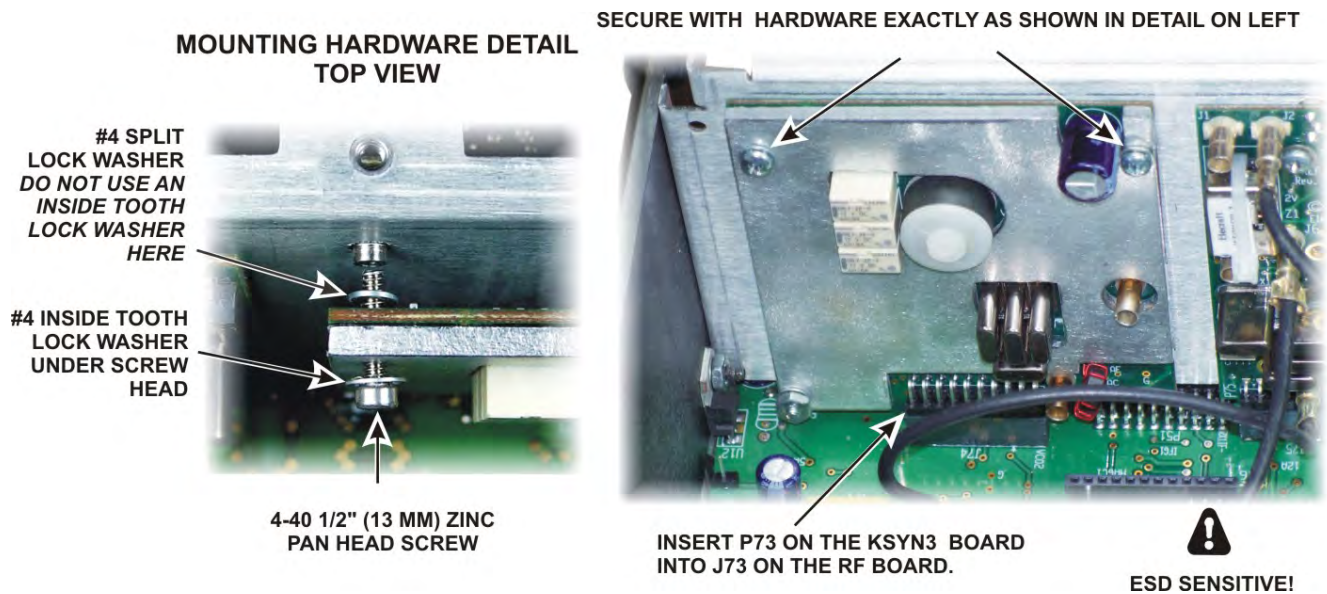
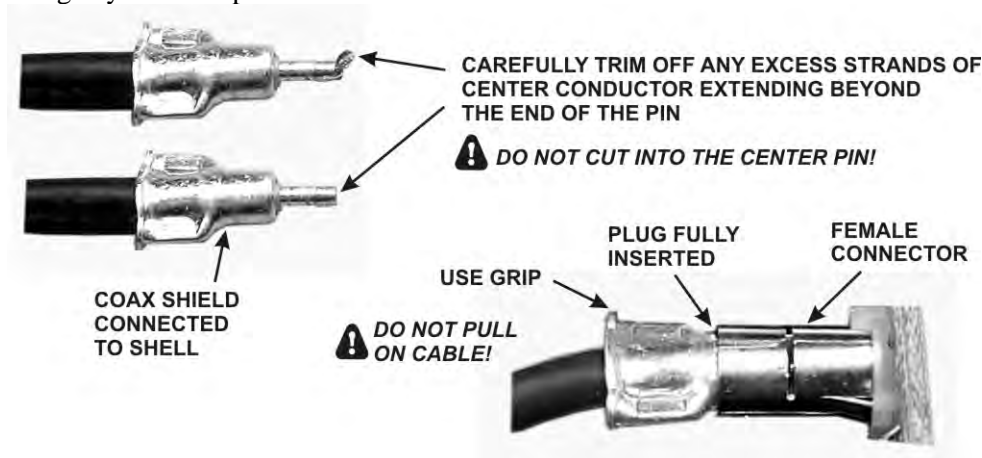

Figure 27. Installing the Aux KSYN3 Board.
Figure 28. TMP Cable Connectors.
□ Install the Auxiliary KSYN3 board on the back of the front panel shield between the KREF3 board and the side panel. Use the hardware exactly as shown in Figure 27. This is most easily done as follows:
☐ Locate the four coaxial TMP cables supplied and sort them by length. There are two 6” (15 cm) one 10” (25 cm) and one 12” (30 cm) cables. These are approximate measurements measured from the tip of one connector to the other. Check the cables as shown in Figure 28 to ensure there are no excess strands of the center conductor extending beyond the tip of the connector. .
☐ Plug one end of the 10” (25 cm) cable into J84 near the bottom of the auxiliary KSYN3 synthesizer board installed earlier (see Figure 27). When inserting or removing the TMP connectors, always handle the cable by the grip as shown in Figure 28. Never pull on the black coaxial cable itself. Be sure you connect it to J84 of the auxiliary KSYN3 board (the one nearest the side of the K3 shown in the figure) and not the main KSYN3 board. The other end of the cable will be connected later.